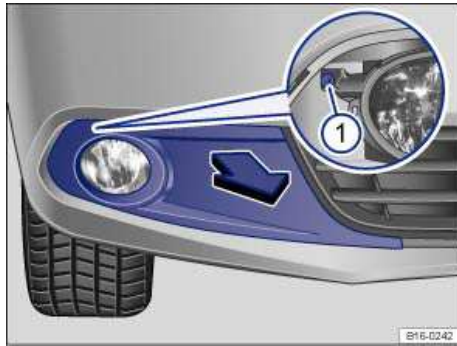
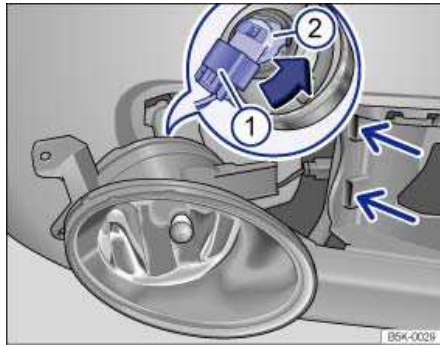

Fig. 178 In front right bumper: Removing the light assembly.
Fig. 179 Replacing a light bulb in the fog light.
2.	Pull the cover forward in the direction of the arrow ⇒ fig. 178.
3.	Unscrew the fastening screw (1) with the screwdriver from the vehicle tool kit
4.	Fold the headlight assembly slightly forward and pull out of the mounts ⇒ fig. 179 (small arrows).
5.	Release the connector plug (1) and pull it off.
6.	Rotate the bulb holder (2) counterclockwise as far as it goes and pull it out with the light bulb to the rear.
9.	Attach the connector (1) to the bulb holder (2). The connector must latch with an audible "click".
11.	Screw the fastening screw → fig. 178 (1) tightly with the screwdriver.